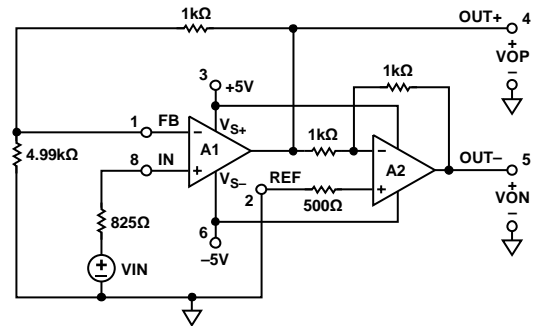
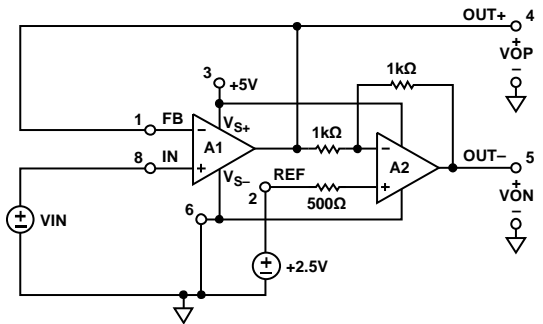
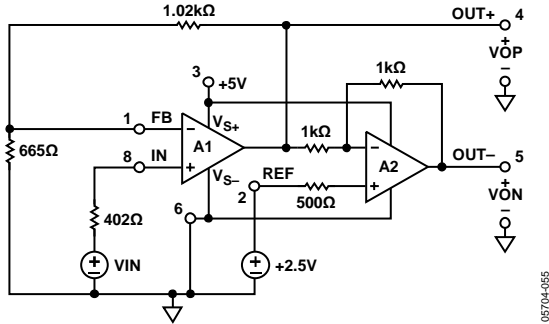

Figure 48. Dual Supply, G = 2.4, Single-Ended-to-Differential Amplifier
Figure 49. Single +5V Supply, G=2 Single-Ended-to-Differential Amplifier
Figure 50. 5 V Supply, G = 5, Single-Ended-to-Differential Amplifier
Figure 48 shows an example of a dual-supply connection. In this example, VG and VREF are set to 0 V, and the external RF and RG network provides a noninverting gain of 1.2 in A1. This example takes full advantage of the rail-to-rail output stage. The gain equation is
Figure 49 shows a single 5 V supply connection with A1 used as a unity gain follower. The 2.5 V at the REF pin sets the output common-mode voltage to 2.5 V. The transfer function is then
In this case, the linear output voltage is limited by A1. On the low end, the output of A1 starts to saturate and show degraded linearity when VOP approaches 200 mV. On the high end, the input of A1 becomes saturated and exhibits degraded linearity when VIN moves beyond 4 V (within 1 V of VCC). This limits the linear differential output voltage in the circuit shown in Figure 49 to about 7.6 V p-p.
Figure 50 shows a single 5 V supply connection for G = 5. The  $R_F$  and  $R_G$  network sets the gain of A1 to 2.5, and the 2.5 V at the REF input provides a centered 2.5 V output common-mode voltage. The transfer function is then
The output range limits of A1 and A2 limit the differential output voltage of the circuit shown in Figure 50 to approximately 8.4 V p-p.
Table 7, Table 8, and Table 9 show typical error budgets for the circuits shown in Figure 48, Figure 49, and Figure 50.
**Table 7. Output Voltage Error Budget for G = 2.4 Amplifier Shown in Figure 48**
**Table 8. Output Voltage Error Budget for Amplifier Shown in Figure 49**
**Table 9. Output Voltage Error Budget for G = 5 Amplifier Shown in Figure 50**
Table 10, Table 11, and Table 12 show the noise contributions and output voltage noise for the circuits in Figure 48, Figure 49, and Figure 50.
**Table 10. Output Voltage Noise, G = 2.4 Differential Amplifier Shown in Figure 48**
**Table 11. Output Voltage Noise, G = 2 Differential Amplifier Shown in Figure 49**
**Table 12. Output Voltage Noise, G = 5 Differential Amplifier Shown in Figure 50**